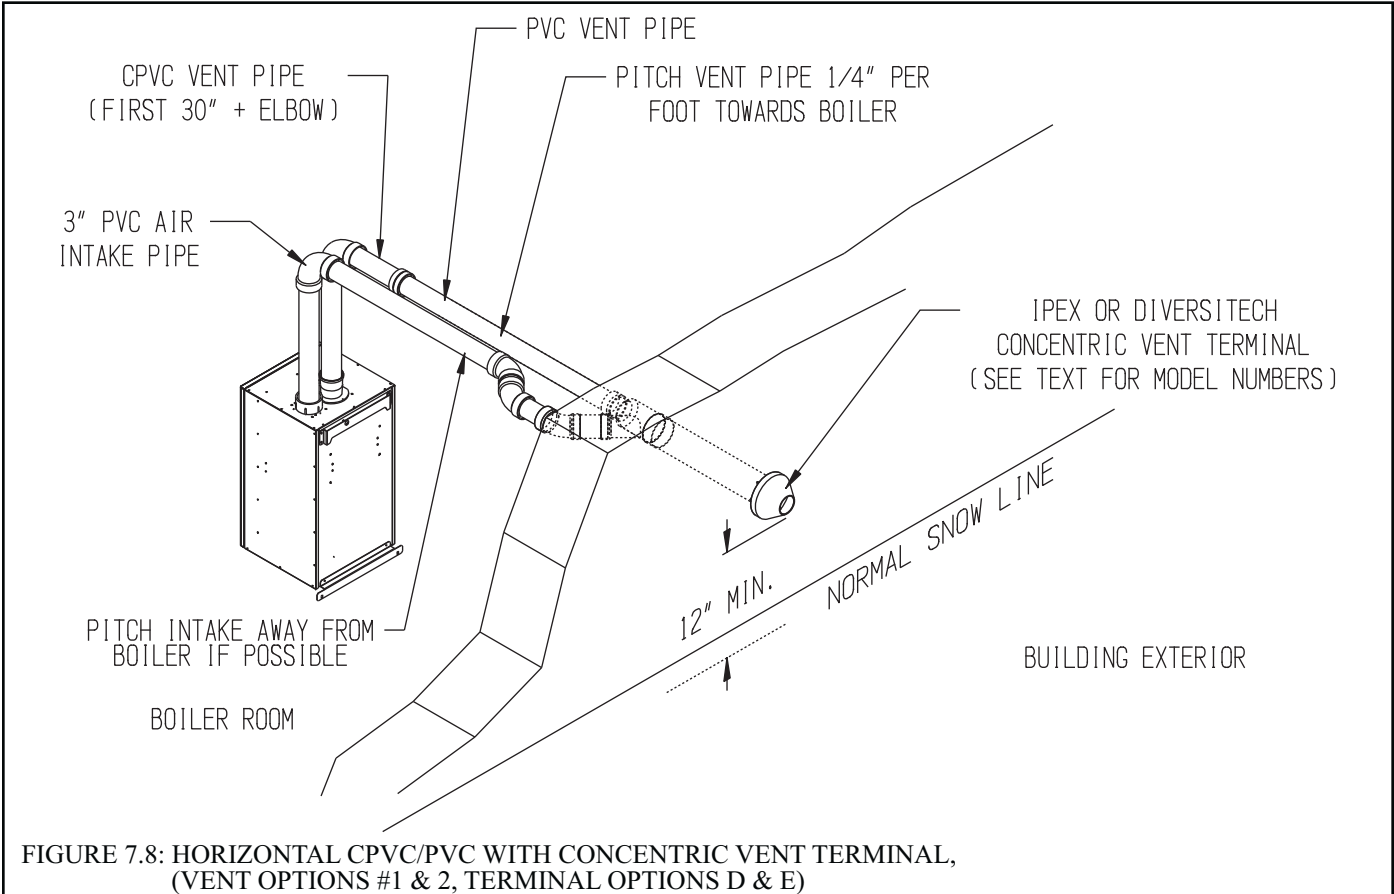

FIGURE 7.8: HORIZONTAL CPVC/PVC WITH CONCENTRIC VENT TERMINAL, (VENT OPTIONS #1 & 2, TERMINAL OPTIONS D & E)
**Terminal Option D: Ipex FGV Concentric Terminal (Acceptable for Vent Options 1,2)** - This terminal is shown in Figure 7.8 and may be used with CPVC/PVC vent systems. This terminal is available in various lengths and in both PVC and CPVC. Terminals acceptable for use with these vent options are as follows:
**Terminal Option E: Diversitech Concentric Terminal (Acceptable for Vent Options 1,2)** - This terminal is shown in Figure 7.8 and may be used with CPVC/PVC vent systems. See Part VII-E of this manual and the Diversitech instructions provided with the terminal, for installation details.